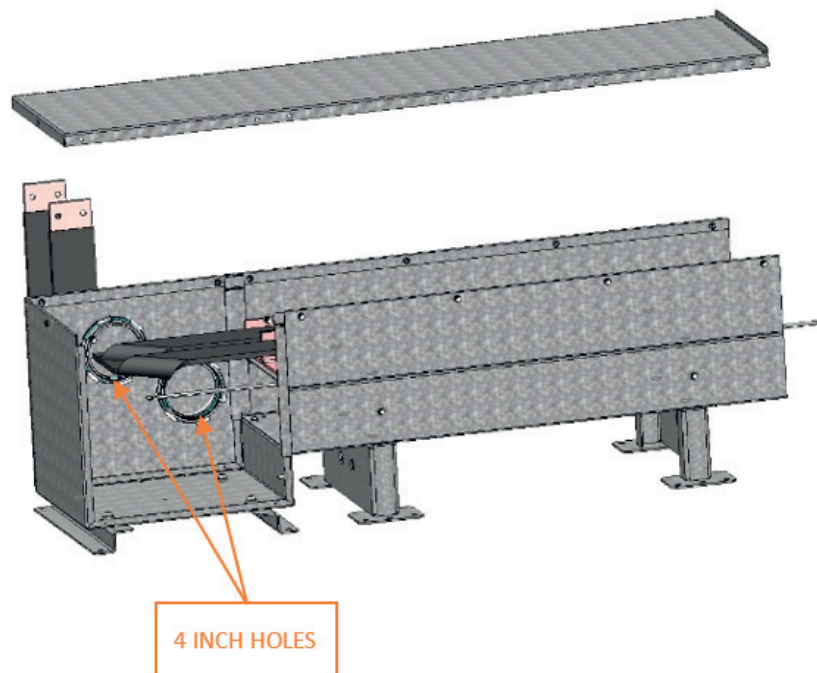

Figure 65. C-Cab XXL Holes Location
- b. Remove the side panel as indicated in Figure 65.